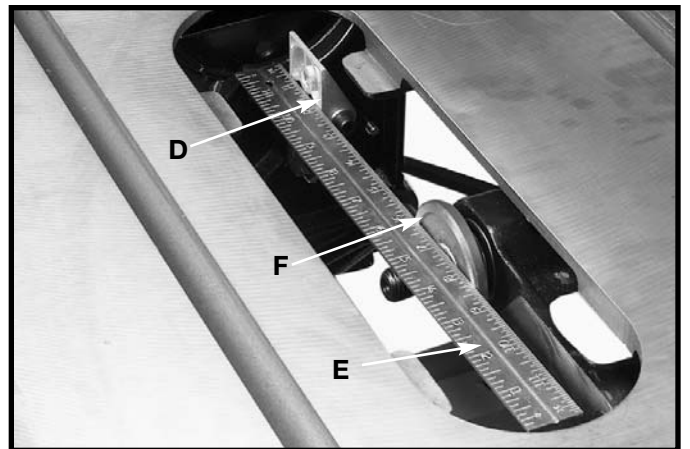

Fig. 26
4. Use a straight edge (E) to check to see if the top and bottom of the inside splitter bracket (D) Fig. 26 is aligned with the inner arbor flange (F).